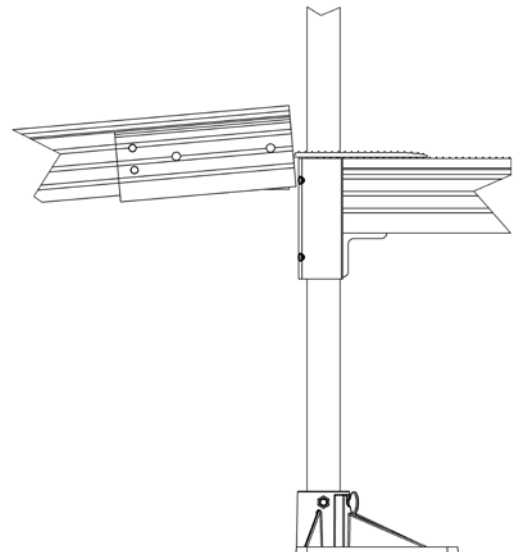

FIG. 19
- 3.3 Position ramp section so the transition plate is fully supported by the platform surface as shown in FIG. 19. Make sure that the top transition plate overlaps the supporting surface as far as possible.